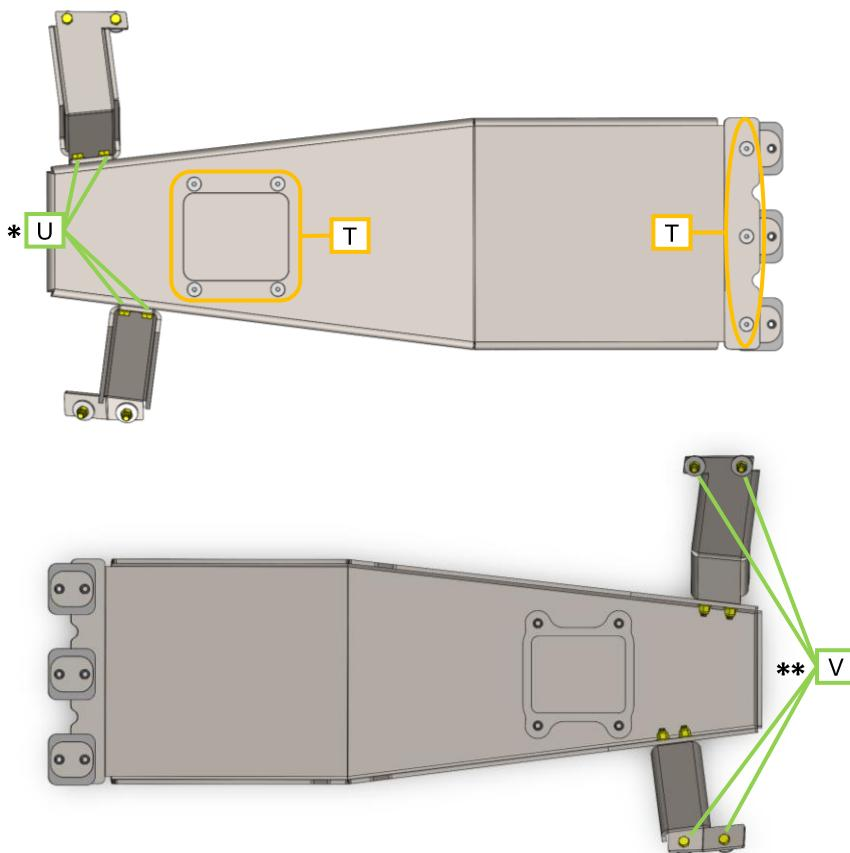

Figure 42: bolt callouts on engine skid plate
35. Proceed with Table 3 while referencing Figure 42. Tighten the engine skid plate hardware to the following specification. Pay attention to the \* notes at the bottom of the page.